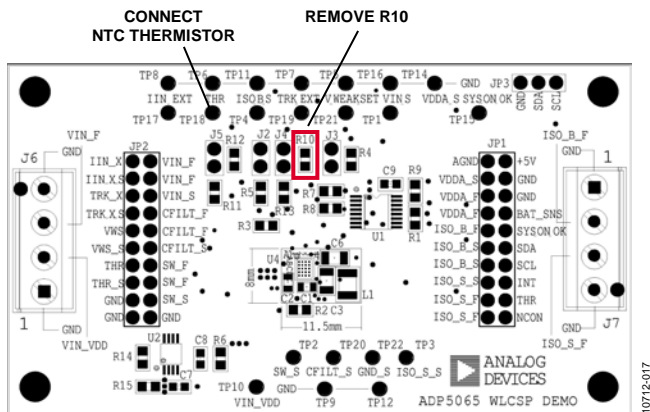

Figure 17. THR Input Evaluation Setup
The THR input of the ADP5065 evaluation board is equipped with two 10 kΩ resistors (R10 and R13) and Jumper J4. When using the actual Li-Ion battery NTC thermistor terminal, the board should be configured as shown in Figure 17.
1. Use the setup shown in Figure 17, but connect the trimmer resistor between the THR input and GND instead of connecting it to the battery thermistor.